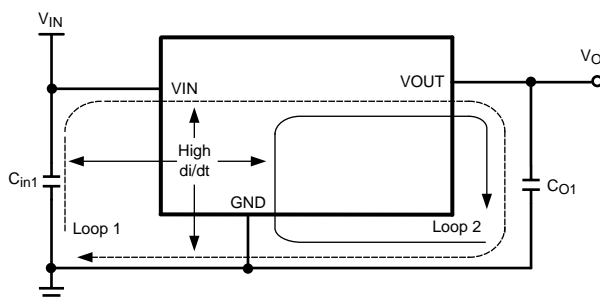

Figure 52. Critical Current Loops to Minimize
From an EMI reduction standpoint, it is imperative to minimize the high di/dt paths during PCB layout as shown in Figure 52. The high current loops that do not overlap have high di/dt content that will cause observable high frequency noise on the output pin if the input capacitor (C_{IN1}) is placed at a distance away from the LMZ22005. Therefore place C_{IN1} as close as possible to the LMZ22005 VIN and PGND exposed pad. This will minimize the high di/dt area and reduce radiated EMI. Additionally, grounding for both the input and output capacitor should consist of a localized top side plane that connects to the PGND exposed pad (EP).